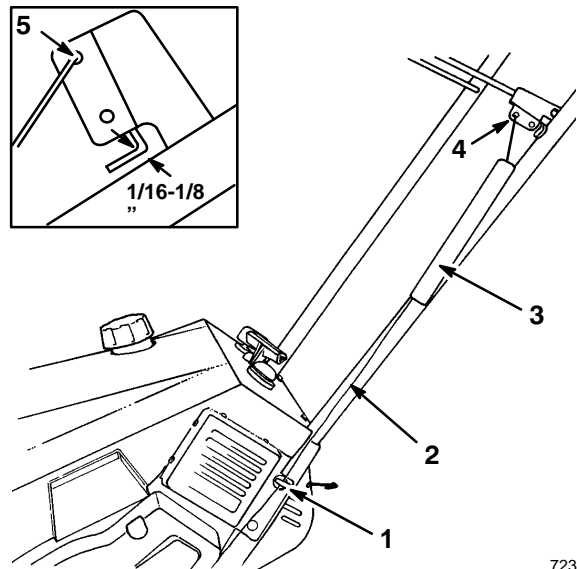

Figure 6
- Hook the spring into the top hole of the control bar bracket (Fig. 6).
- Move control bar back toward the handle until there is no slack in the cable. The gap between the control bar bracket and the handle should be approximately 1/16 to 1/8 in. (0.16 to 0.32 cm). See inset in Figure 6. To adjust this gap, refer to *Adjusting the Control Cable* on page 11.